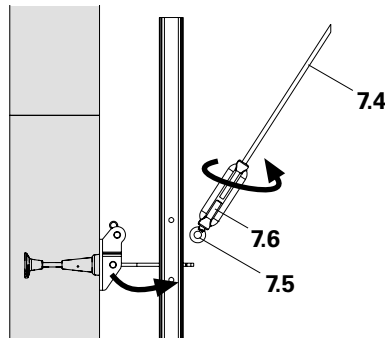

Fig. B1.38
5. Turn Turnbuckle CB Ø 25-M20L/DW 15 (7.6) on the tie rod (7.4). (Fig. B1.38) Roughly adjust length by turning the tie rod. Fine adjustment by turning the turnbuckle.